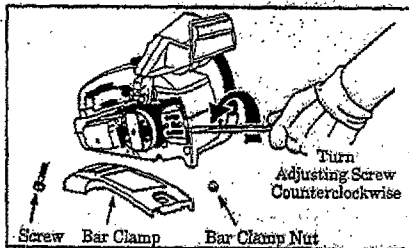

Figure 7
- Remove the following parts (Figure 7) using a 1/2 inch wrench and a standard screwdriver.
- Turn the adjusting screw counterclockwise to move the adjusting pin almost as far as it will go to the rear. Figure 7.